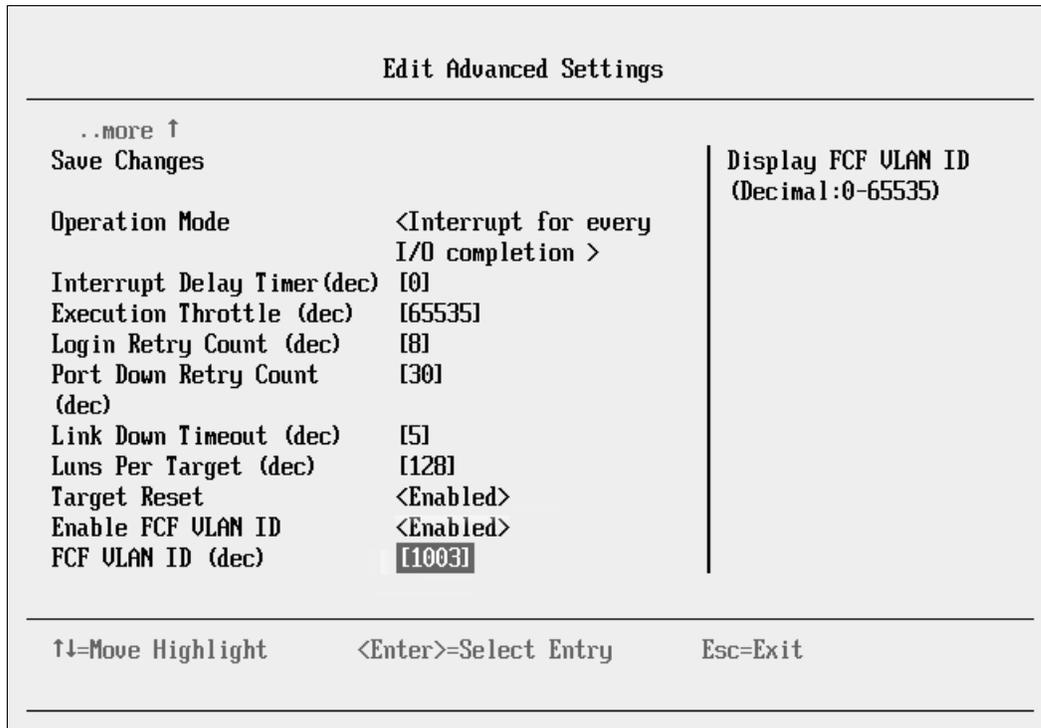

Figure 6-31 Manual FCoE VLAN ID setting for QLogic CNA in UEFI
- ▶ Press F1 upon starting the system to access the UEFI configuration menu (Figure 6-31). Set the Enable FCF VLAN ID to **<Enabled>**, and enter the VLAN ID.